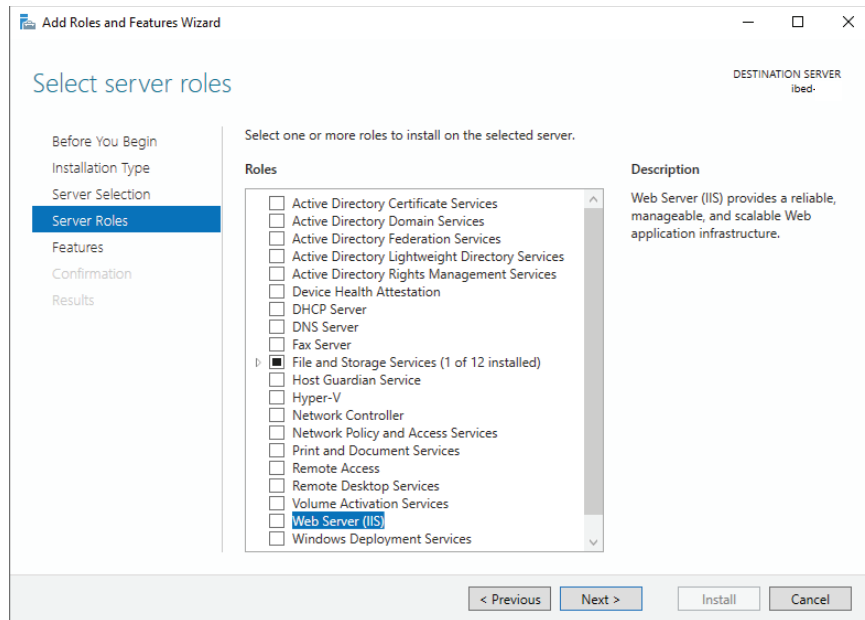

Figure 7 – Server confirmation
8. In the **Select server roles**, select **Next** (Figure 7).